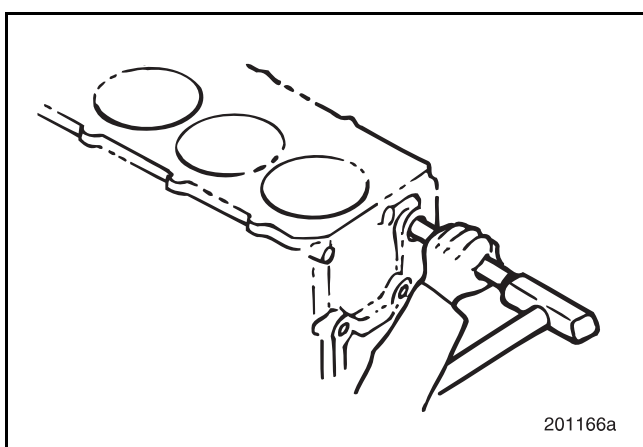

Figure 6-3 — Cylinder Block Cup Plug Installation
2. Using a proper driver, align the plug in the hole and drive it inward until the outer lip of the plug is flush with the cylinder block. Refer to Figure 6-3.